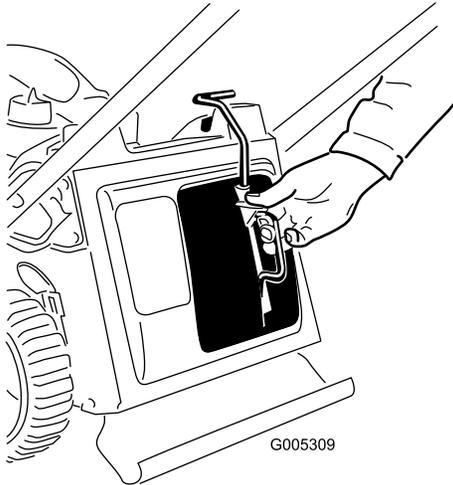

Figure 27
1. Remove the mulch plug (Figure 27).